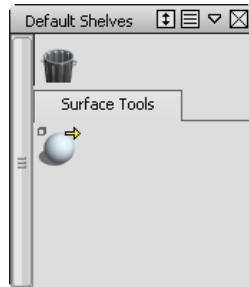

Figure 1-35 The **Sphere** tool added to the **Surface** shelf
4. Choose **Windows > Palette** from the menu bar; the **Palette** will be displayed. Next, expand the **Surfaces** tab by clicking on it. Drag the **Sphere** tool to the newly created shelf (**Surface**) by using the middle mouse button; the **Sphere** tool will be added to the new (**Surface**) shelf, as shown in Figure 1-35.